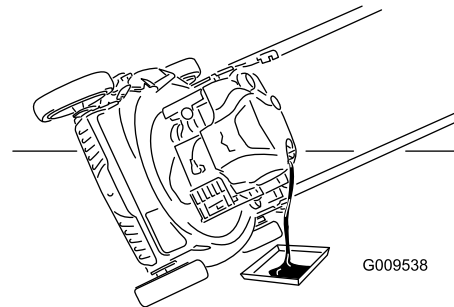

Figure 21
4. Tip the mower onto its side with the air filter up to drain the used oil out through the oil fill tube (Figure 21).